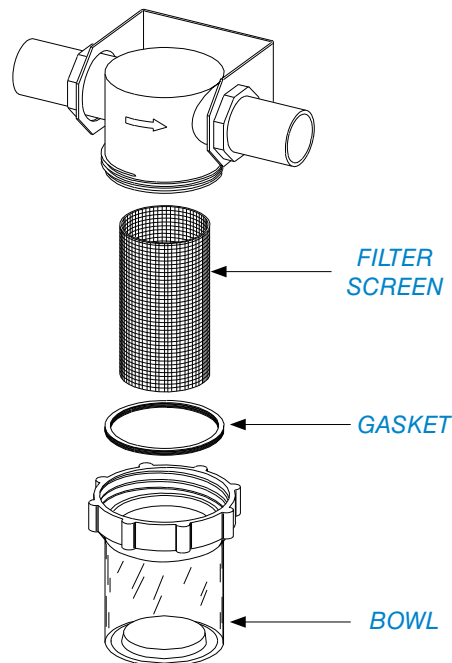

FIGURE 4. WATER RECIRCULATOR
2. Remove the lower bowl of the filter at the pump location (FIG 4).
4. Re-insert the gasket and screen into the bowl, then add one (1) scoop (1 oz) of water recirculator cleaner to the bottom of the bowl.